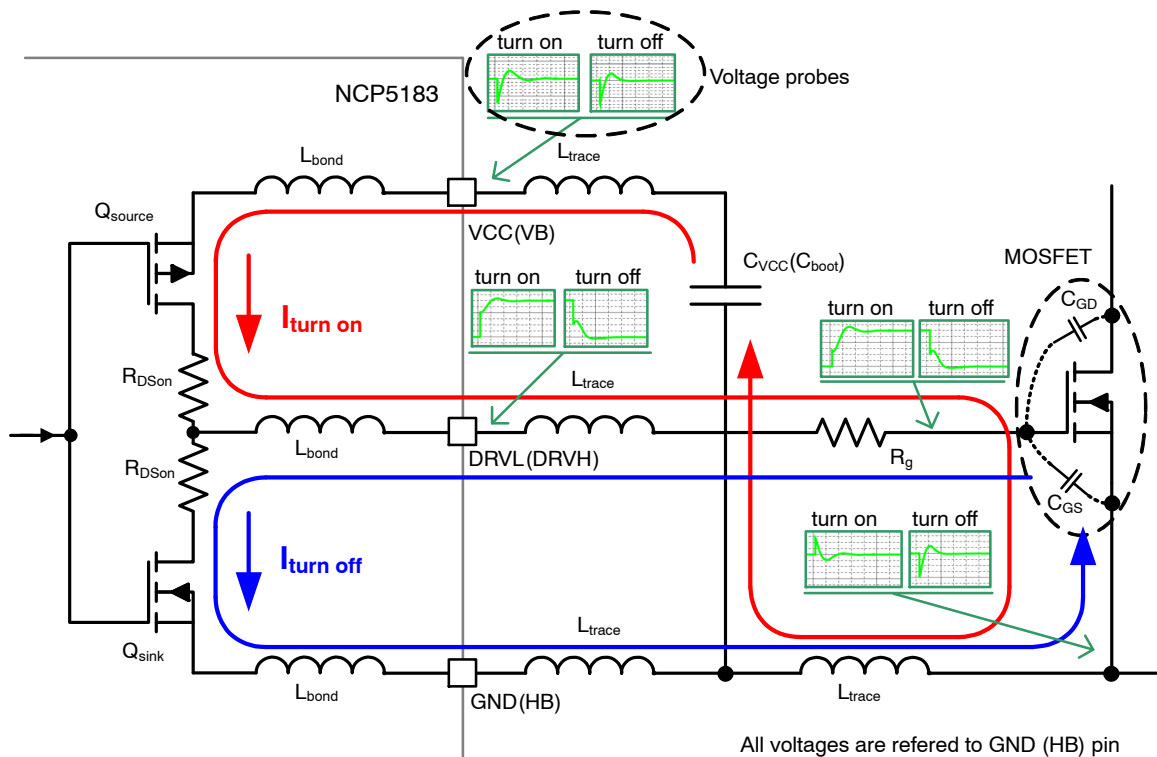

Figure 27. Equivalent Circuit of Power Switch Driver
A capacitor connected from VCC (VB) to GND (HB) terminal is source of energy for charging the gate terminal of an external MOSFET(s). For better understanding of this process see Figure 27 (all voltages are related to GND (HB) pin). When there is a request from internal logic to turn on the external MOSFET, then the Qsource is turned on. The current starts to flow from CVCC (Cboot), through Qsource, gate resistor Rg to the gate terminal of the external MOSFET (depicted by red line). The current loop is closed from external MOSFET source terminal back to the CVCC (Cboot) capacitor. After a while the CGS capacitance is fully charged so no current flows this path. When the external MOSFET going to be turned off, the internal Qsource is turned off first
and after a short dead time Qsink is turned on. Then CVCC (Cboot) is not a source any more, the source of energy became the CGS (and all capacitance connected to this terminal, like Muller capacitance). Now the current flows from gate terminal, through Rg resistor and Qsink back to the MOSFET (depicted by blue line). In both cases (charging and discharging external MOSFET) there are several parasitic inductances in the path. All of them play a role during switching. In Figure 27 an influence of the inductances in some places is showed. On VCC (VB) pin a drop during turn on and turn off is observed. If too long an UVLO protection can be triggered and the driver can be turned off subsequently, which result in improper operation of the application.